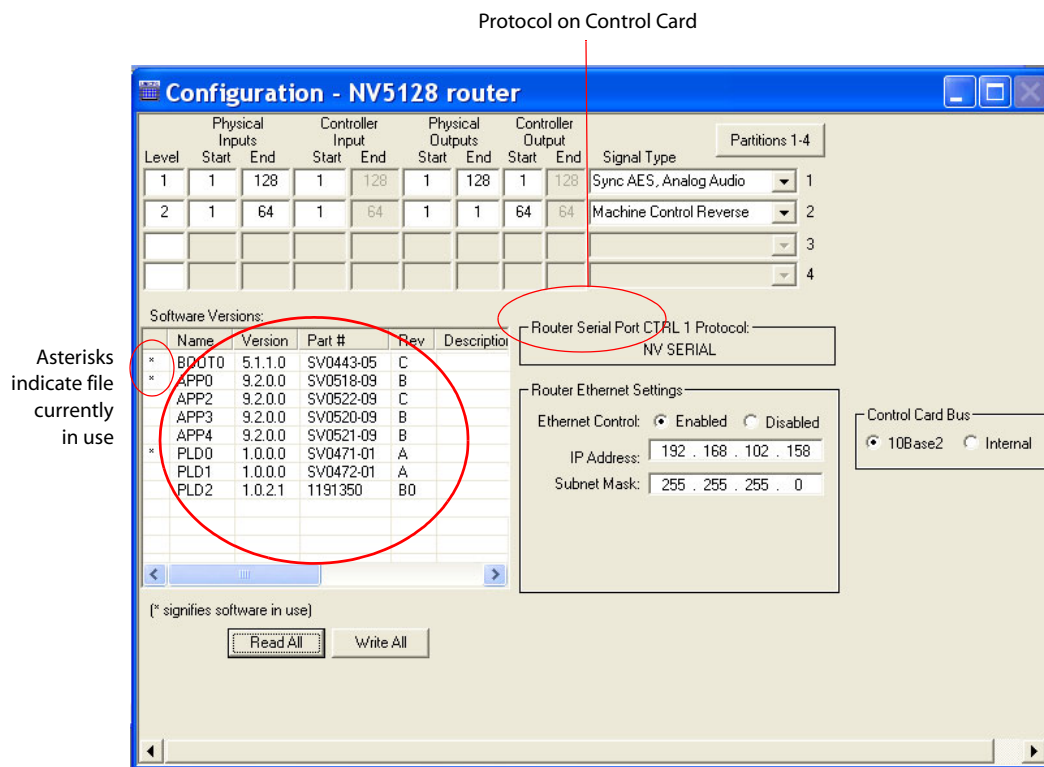

Figure 18-1. Example of Configuration Window
- 4 Click Read All. Currently loaded protocols display in the ‘Software Versions’ section, as shown in Figure 18-1.
- 3 From the menu bar, select ‘Windows > Configuration’. The ‘Configuration’ window appears, as shown in Figure 18-1.
- 10 Again from the menu bar, select 'Window > Configuration'. The new protocol is listed in the 'Software Versions' section, as shown in Figure 18-1.